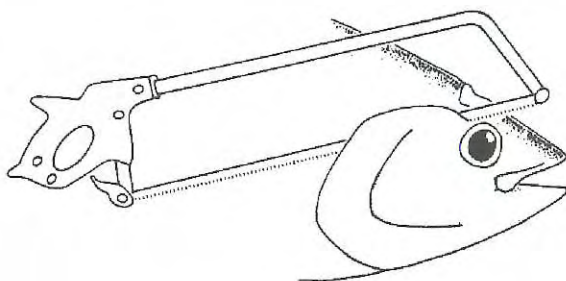

Figure 23. Saw towards snout from behind the gill cover on both sides of fish to achieve a tapered cut.
Step 2 Alternatively, insert the saw behind the gill cover and saw at an angle towards the snout. Make this tapered cut on both sides of the fish. (Figure 23.)